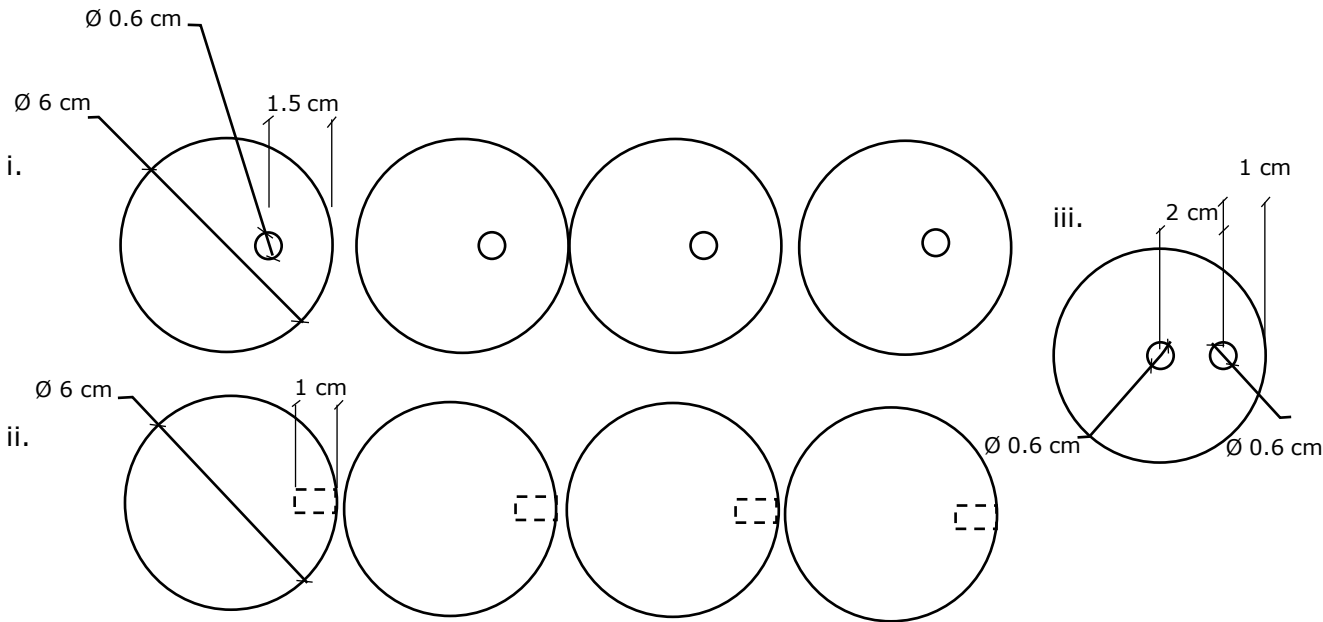

Figure 2: Circles for cam toy
2. **NINE** circles, R30, cut out of 10 mm material (e.g. plywood or MDF) according to Figure 2: